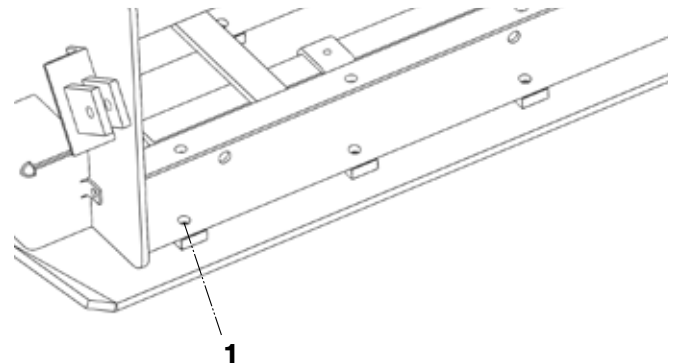

Figure 5-5. Wear Plate Shoulder Bolts
5. Remove shoulder bolts out of lower adjustment screws on top of wear plate (**Figure 5-5,1**).